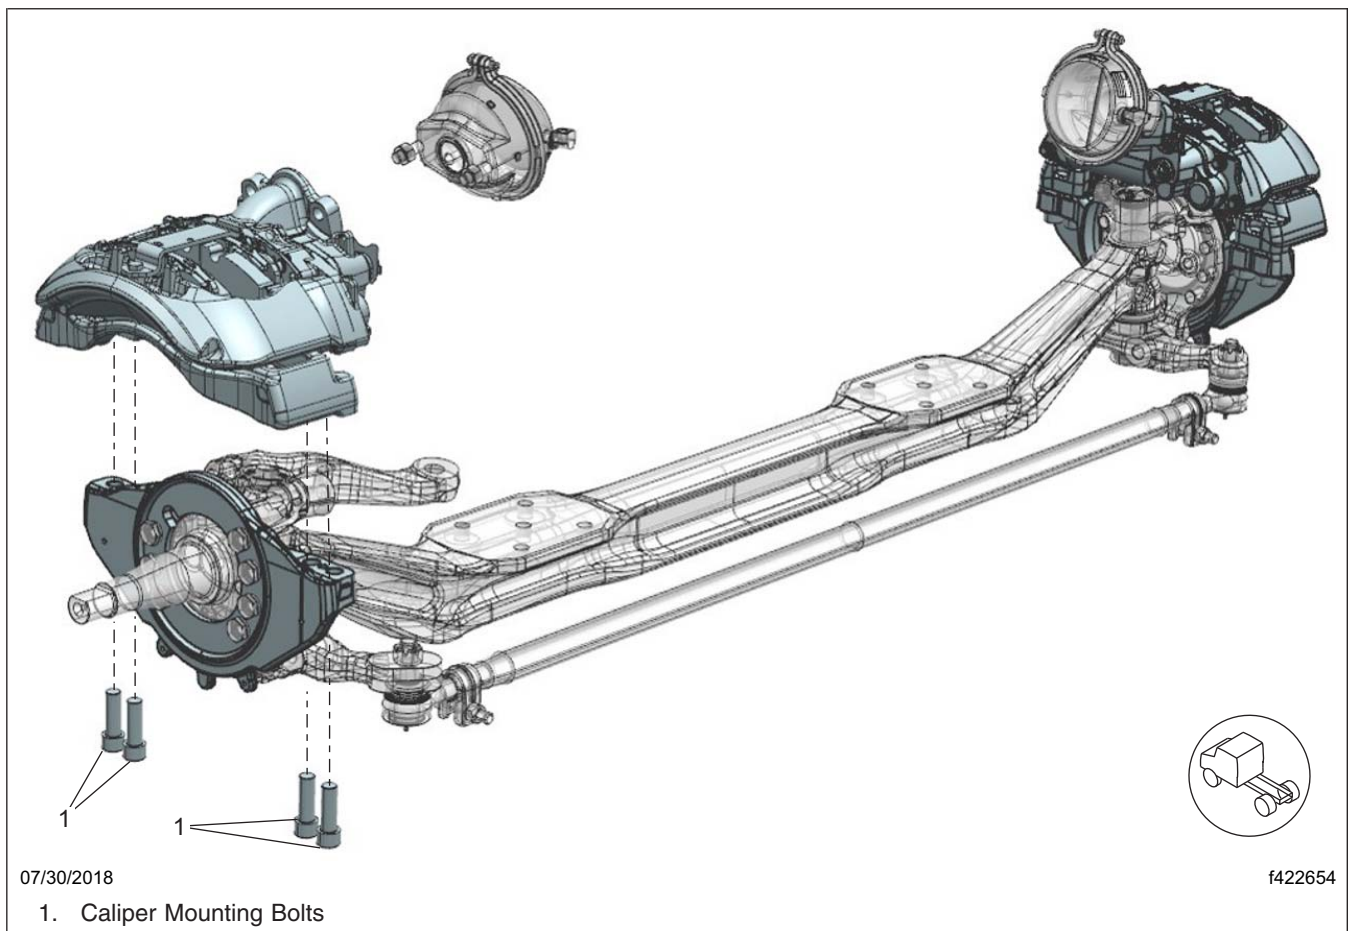
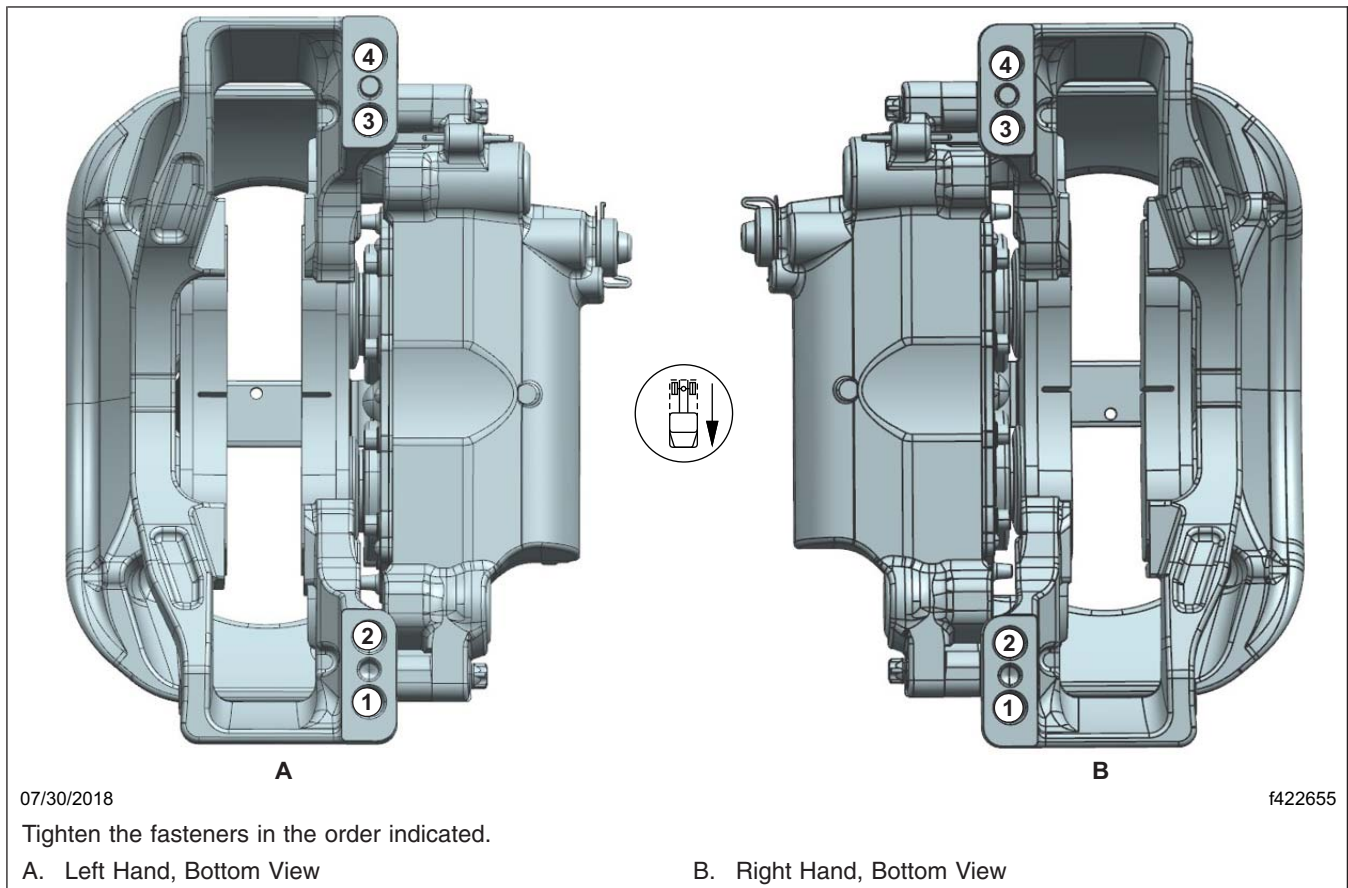

Fig. 8, Meritor Radial Mounted Caliper
Fig. 9, Tightening Pattern, Meritor Caliper
9. Align each caliper/carrier assembly with the rotor by pushing the fixed pin side of the caliper against the shelf on the torque plate, then install the caliper/carrier assembly using new caliper mounting bolts. See Fig. 8 and Fig. 9.
10. Tighten the carrier mounting bolts in two steps, using the pattern shown in **Fig. 9**